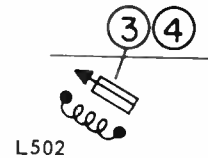

Fig. 3
**STEP 3:** Adjust horizontal efficiency coil L502 in Fig. 3. With the tuning core of L502 at the top of the coil (away from the chassis) adjust L502 critically for minimum V14 cathode current. Then rotate the core one turn clockwise towards the chassis.